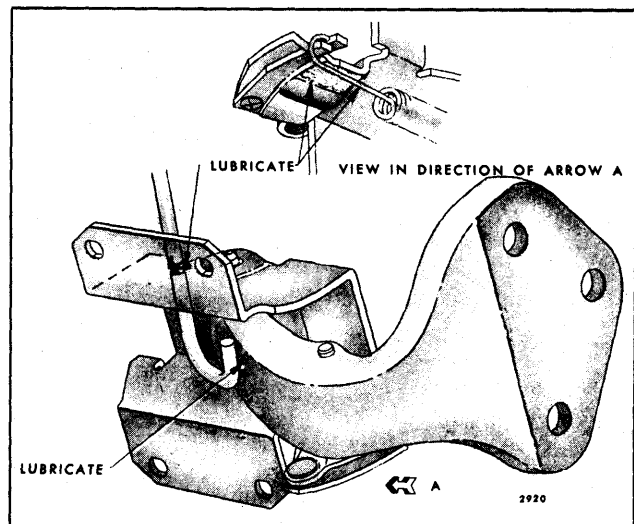

Fig. 2-4—"E" Body Front Door Hinge Lubrication
3. Lubricate the torque rod on the "E" series lower hinge assembly with molybdenum disulphide (Fiske Bros. 475-10DS or equivalent) at the points indicated (Fig. 2-4).